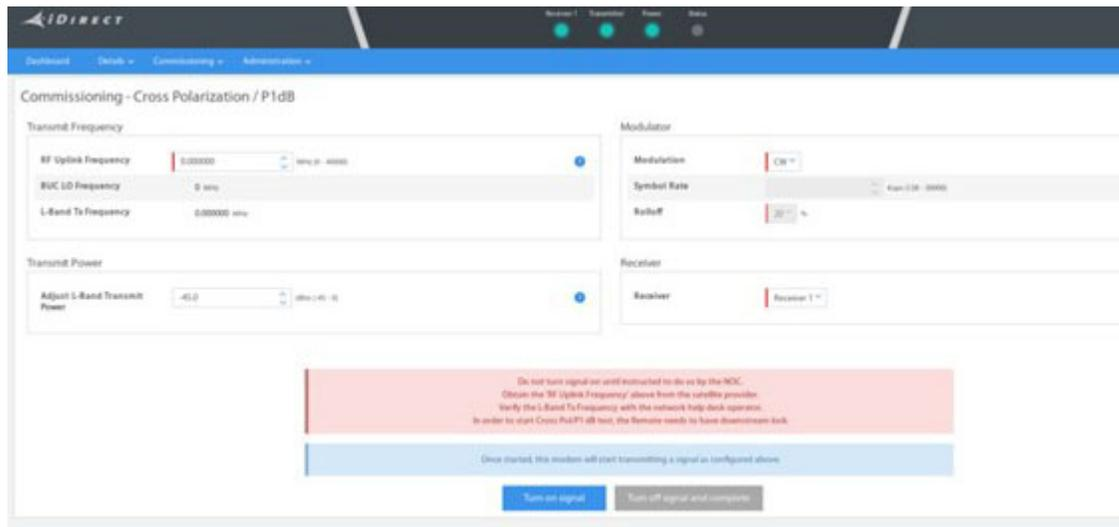

Figure 3-8. Terminal WUI Cross Polarization Page
6. Log in as **Admin** and click **Commissioning > Cross Polarization/P1dB**. See Figure 3-8.
4. Under **Commissioning > Cross Polarization/P1dB**, under **RF Uplink Frequency** (Figure 3-8) enter the test frequency.
1. On the Terminal WUI, click **Turn On Signal** (Figure 3-8).
2. In the terminal WUI, adjust the transmit power as instructed by the access controller by selecting the appropriate power value in the **Transmit Power** section of the Cross Polarization screen. (See Figure 3-8)
1. Using the Terminal WUI, on the **Cross Polarization/P1dB** page (see Figure 3-8):